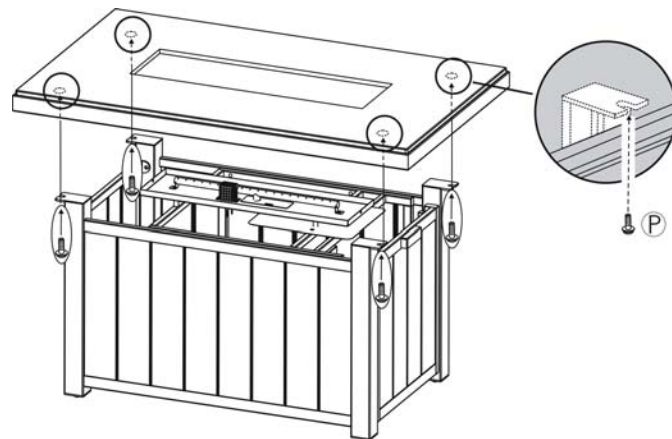

Figure 6
5. Place the fire pit table top onto the fire pit base. Secure the table top to the fire pit base by using the 1/4" x 20 mm bolts with large washers that are provided. See Figure 6.